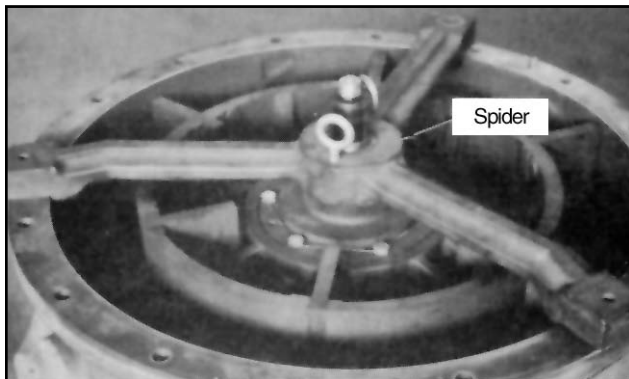

Figure 20
- Spiders (concentricity fixtures) can be used to maintain rotor concentric with inner housing, Figure 20.